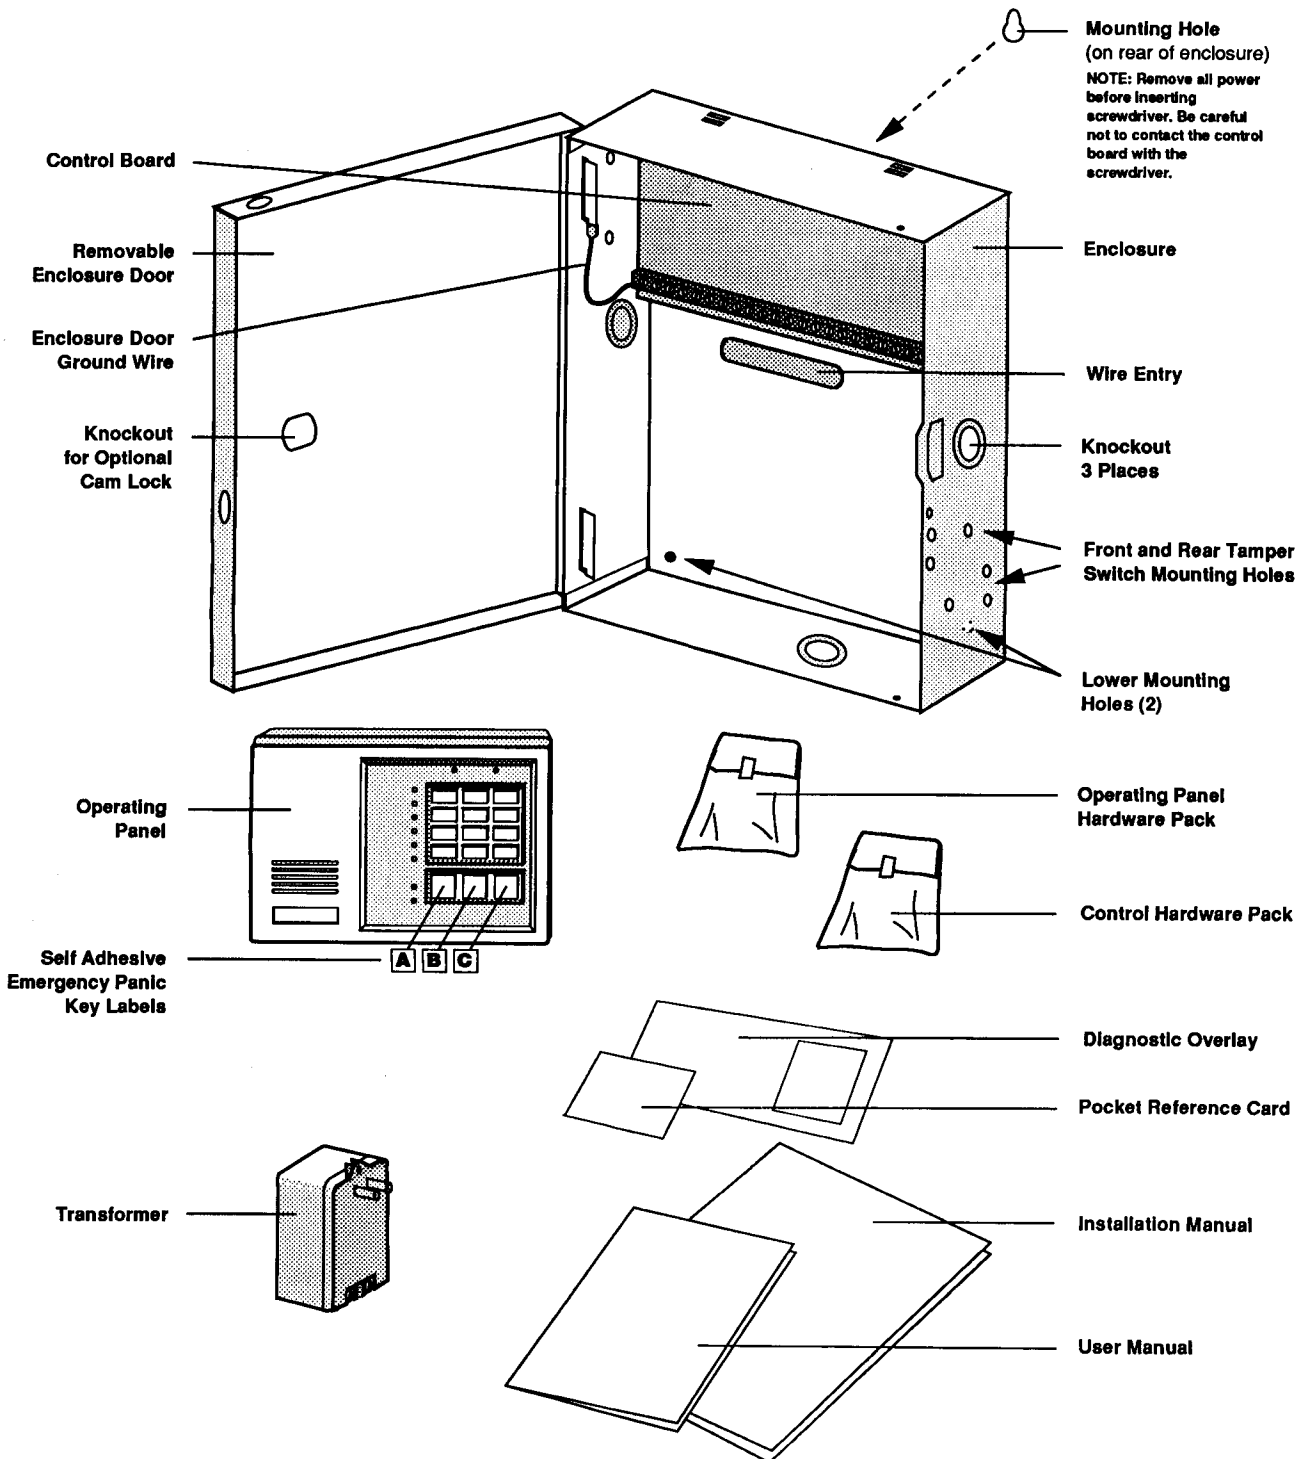

FIGURE 2 Safewatch Plus/Entrepreneur PARTS LIST
1. Remove all packing material and compare the system components with those in Figure 2, page 2 to familiarize yourself with the part names as this manual will refer to them periodically.
4. The enclosure door must be mutually grounded. Connect the female plug on the end of the green ground jumper wire (which is attached to the lower left control board mounting screw) to the bottom of the upper enclosure door hinge (see Figure 2, page 2).